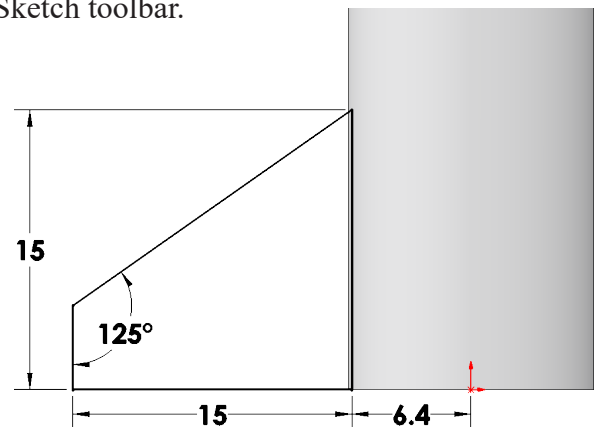

Fig. 20
Step 6. Click **Smart Dimension**  (S) on the Sketch toolbar.
Step 7. Add dimensions, **Fig. 20**.